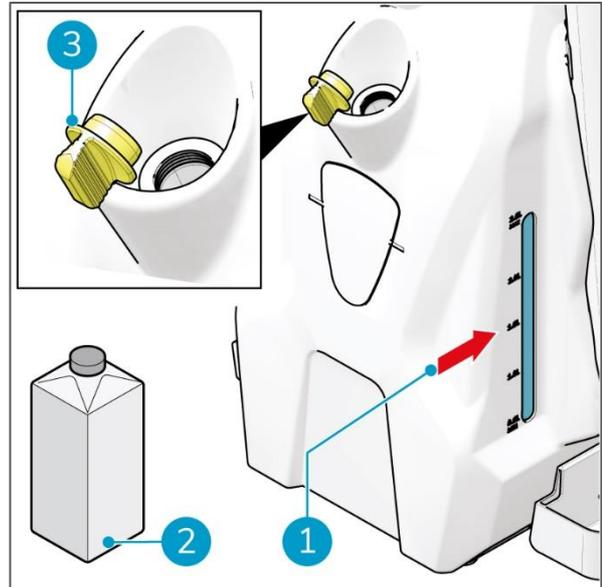

Figure 12
1. Remove the yellow stopper (Figure 12, pos 3).
2. Pour in the disinfectant (Figure 12, pos 2) while checking the fluid level (fig 12, pos 1).
3. Replace the yellow stopper (Figure 12, pos 3) and make sure it seals tight.
4. Remove the yellow stopper from the fluid tank (Figure 12, pos 2).
(Figure 12, pos 2).